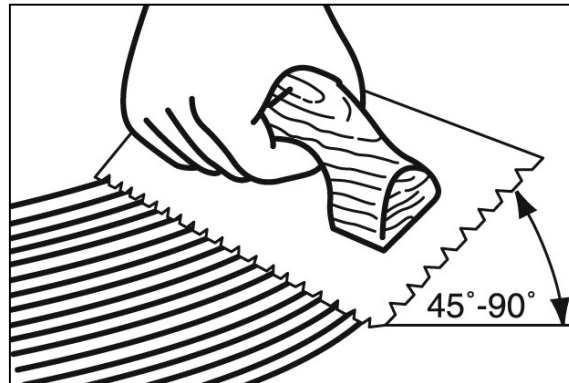

Figure 9
- Hold trowel at a minimum 45° angle (**Figure 9**) firmly against the subfloor to obtain a 40-60 ft.² (4-5.5 m²) per gallon spread rate. The trowel will leave ridges of adhesive and very little adhesive between the ridges. This method will allow you to see the chalk lines between the ridges still and provide the recommended spread rate.